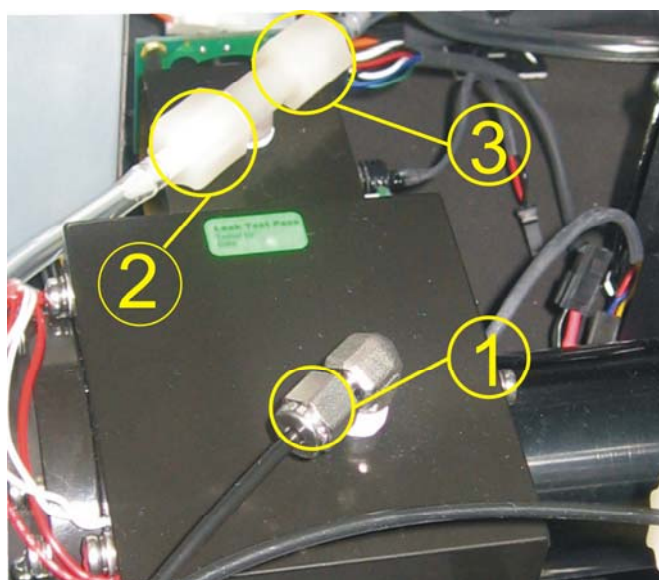

Figure 9 Pressure Calibration
2. Unscrew fitting from top of cell, anticlockwise, remove 1/8 black tubing and screw stainless steel blocker onto fitting (1 in Figure 9)
3. Remove tubing (connecting to hydrocarbon kicker) from cell T-piece (2 in Figure 9)
2. Remove the stainless steel blocker from the cell T-piece fitting (3 in Figure 9)
12. Reconnect tubing to cell as shown in 1 +2 Figure 9